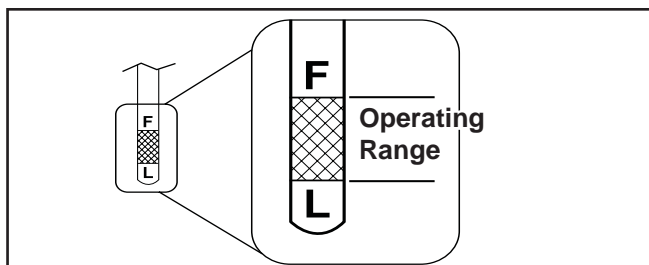

Figure 7. Oil Level Marks on Dipstick (Typical).
4. Remove the oil fill cap/dipstick and check oil level. The oil level needs to be within the operating range. See Figure 7. If low, add oil of the proper type, up to the full mark. If oil is above the "F" or FULL mark, drain oil to reach proper level. Reinstall the oil fill cap/dipstick.